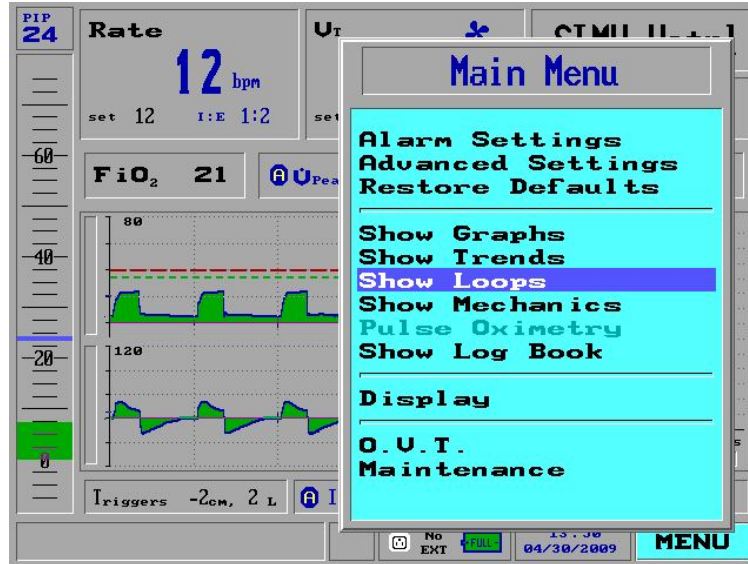

Figure 111: Show Loops selected on the Main Menu
- Select and press the **Menu** option in the **Main** screen to view the **Main Menu** (Figure 111).